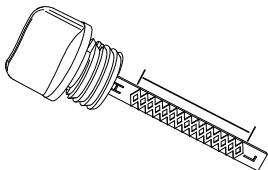

Figure 2-7. Safe Operating Range
- See **Figure 2-7**. Remove dipstick and verify oil level is within safe operating range.